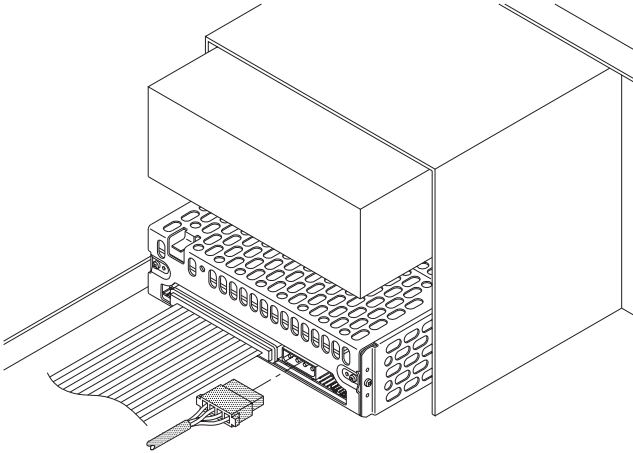

Figure 8 Connecting the power cable to the tape drive
7. Locate the power connector on the back of the tape drive. Connect the power cable to the power connector as shown in Figure 8.